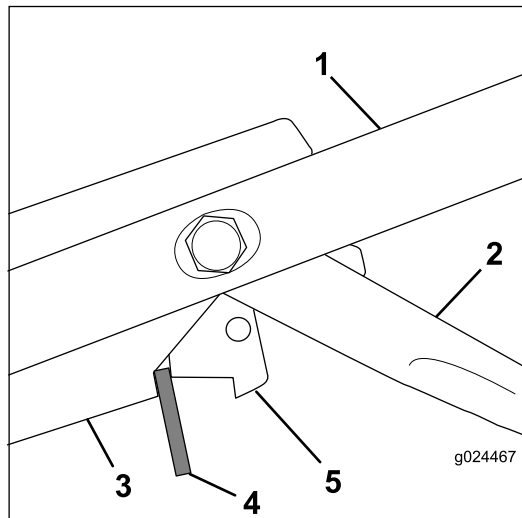

Figure 34
3. Insert a 8 mm (5/16-inch) thick spacer between the blade-brake-control lever and the control bracket on the handle (Figure 34).